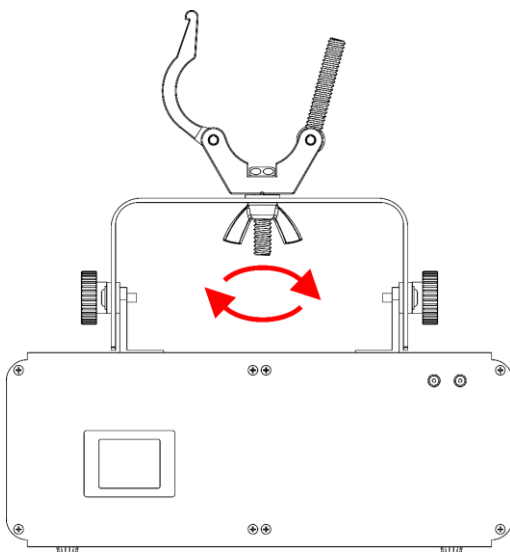

Fig. 05
- 04) Turn the **locking hex nut (07)** counterclockwise, to remove it.
- 05) Turn the **wing nut (06)** counterclockwise, to remove it.
- 06) Attach a load to the **hex bolt (08)** and secure it in one of the 2 ways:
- Temporary installation: Put the **wing nut (06)** on the **hex bolt (08)** and turn it clockwise, to tighten the load (Fig. 05).